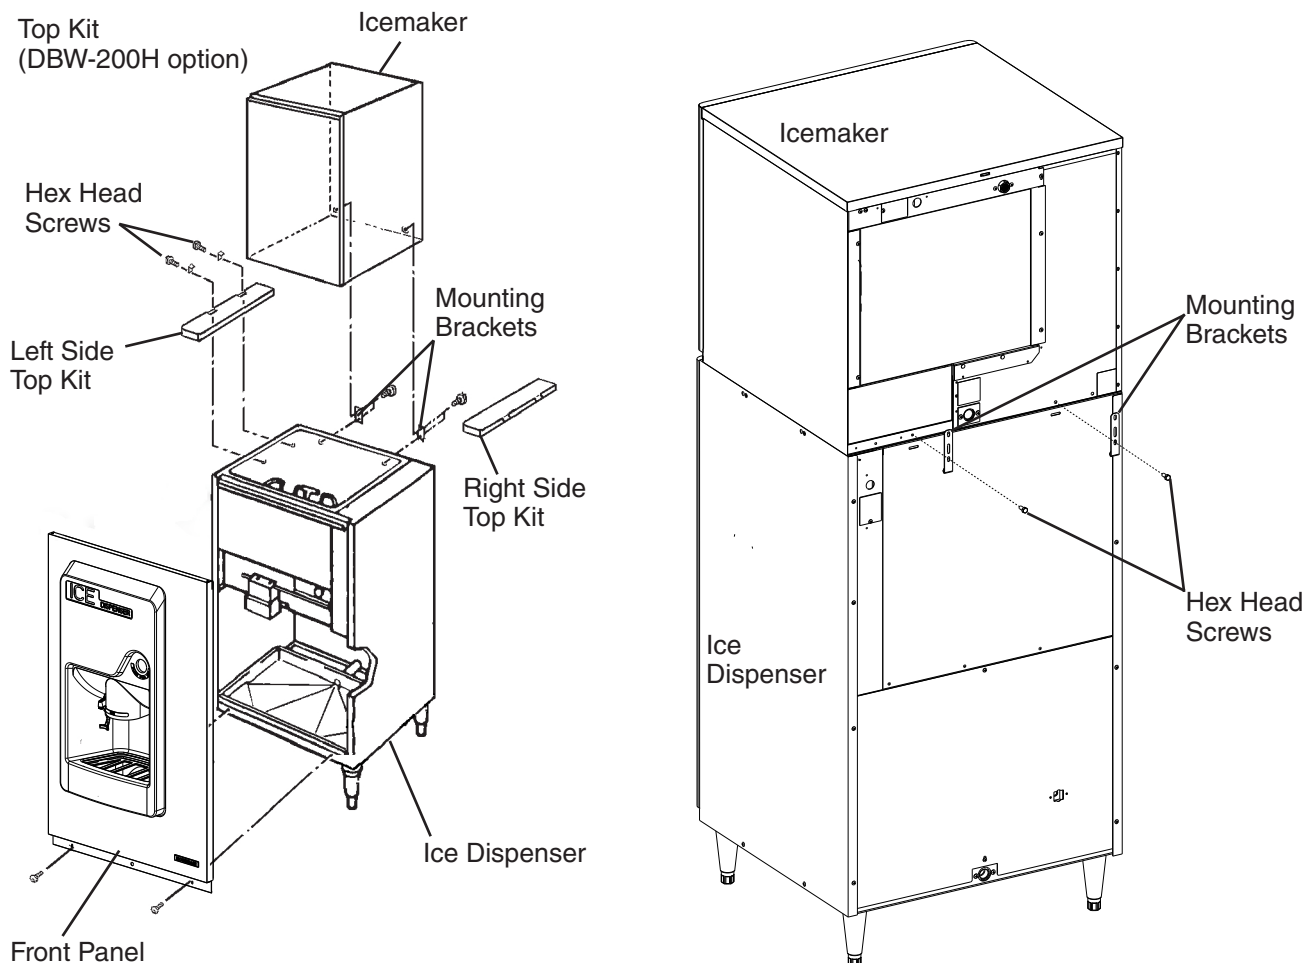

Fig. 4
- 5) Place the icemaker on top of the ice dispenser, then secure the icemaker to the ice dispenser using the 2 universal braces and hex head bolts included with the icemaker. See Fig. 4. Confirm the setup is level.